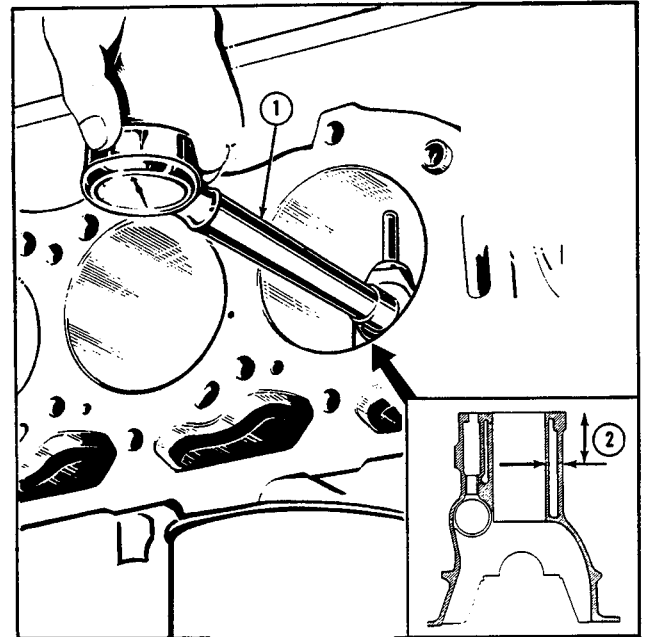

Figure 51
4. Using a bore gauge (or inside micrometer) check and record the cylinder bore diameter in a crosswise direction as shown in Figure 51.